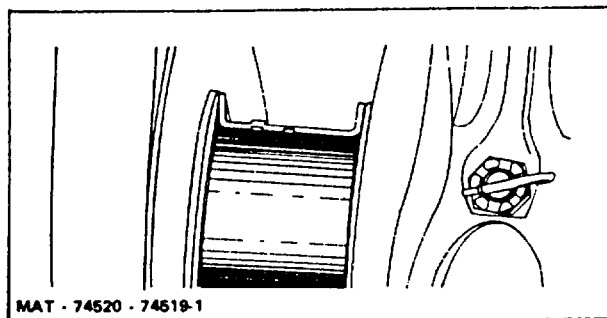

Figure 60. Flanged Bearing Controls Crankshaft End Play.
13. Crankshaft thrust is controlled by flanged center bearings (Figure 60) which require no shims. If end play exceeds .006" (using a feeler gauge) replace the flanged bearings. End play should be between the .002" and .006" limits.